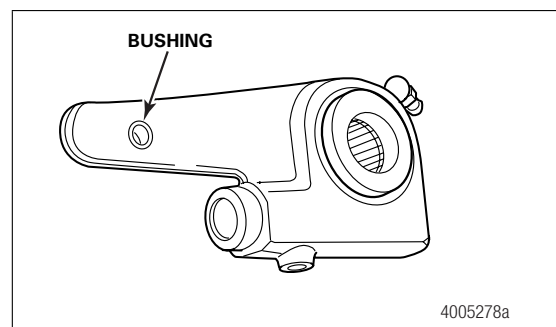

Figure 3.16
7. Inspect the clevis bushing in the slack adjuster arm for wear or damage. Replace a worn or damaged bushing. Check the bushing's diameter to ensure it does not exceed 0.531-inch (13.5 mm). Figure 3.16.